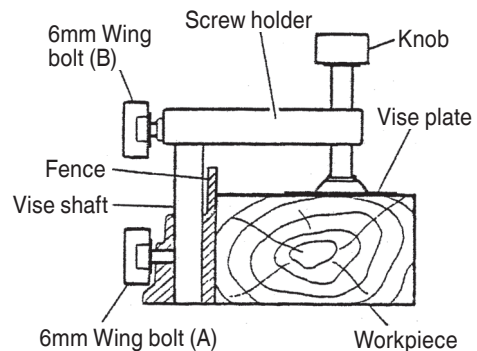

Fig. 21
- (1) The vise assembly can be mounted on either the left fence (Fence B)) or the right fence (Fence A)) by loosening the 6mm wing bolt (A).
- (2) The screw holder can be raised or lowered according to the height of the workpiece by loosening the 6mm wing bolt (B). After the adjustment, firmly tighten the 6mm wing bolt (B) and fix the screw holder.
- (3) Turn the upper knob and securely fix the workpiece in position (Fig. 21).